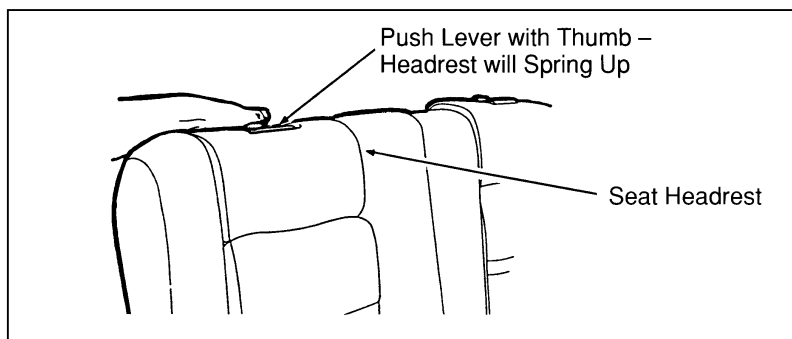
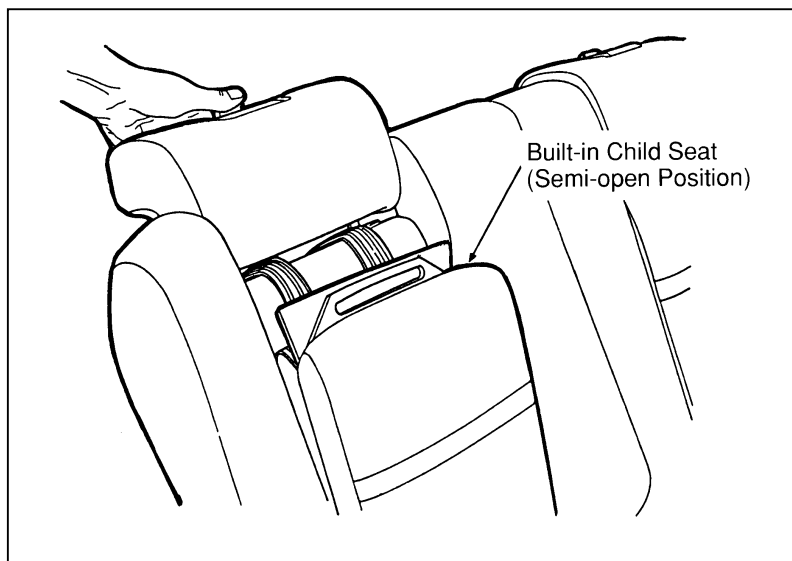

Figure 1: Releasing the headrest
Figure 2: Release the lever and rotate the headrest to the full up position
1. Push the headrest release lever and grasp the headrest as shown in Figure 1. Then release the lever and rotate the headrest **full up** until the latch “clicks” in the **full up** position. Refer to Figure 2.
3. Push the headrest release lever and slide the headrest downward until it latches against the child seat cushion. Refer back to Figures 1 and 2.